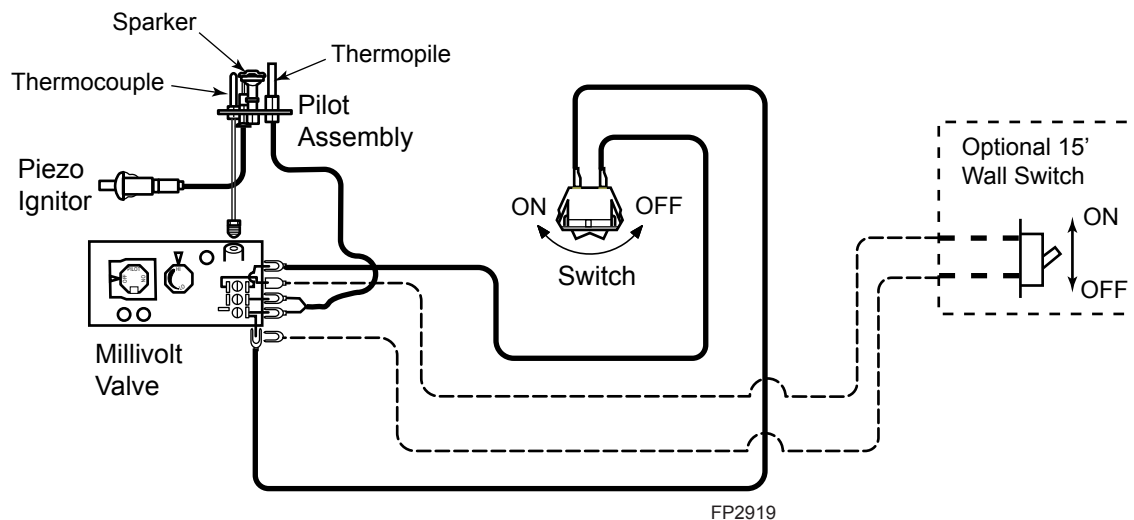

Figure 39 -
A remote wall switch and up to fifteen (15) feet of 18 Ga. wire may be used with this appliance. Attach the wall switch in a junction box at the desired location on the wall. *Figure 39*. Do not extend beyond the wall switch wire length provided.